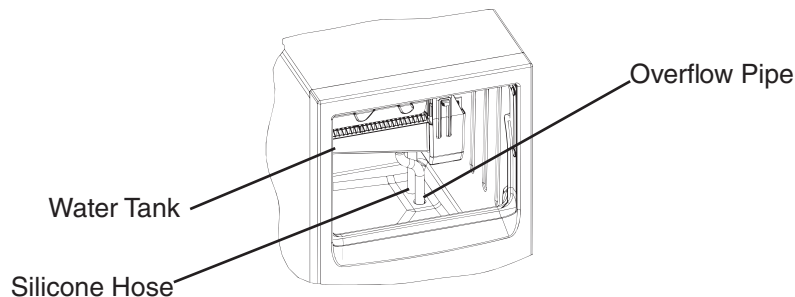

Fig. 4
- 2) Disconnect the silicone hose to drain the water, then after all the water has drained reconnect the silicone hose back in its correct position. See Fig. 4.
- 4) Disconnect the FS/CB 2-pin connector (1 black (BK) wire and 1 red (R) wire coming from FS and 2 red (R) wires coming from CB K1 connector pins 1 and 3).